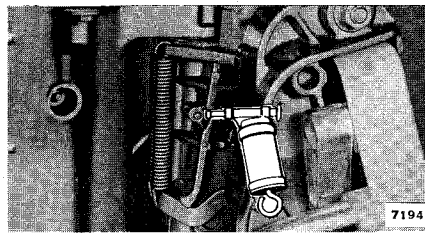

Figure 2-15. Swivel Bracket Fitting
9. Swivel Bracket Fitting See Figure 2-15